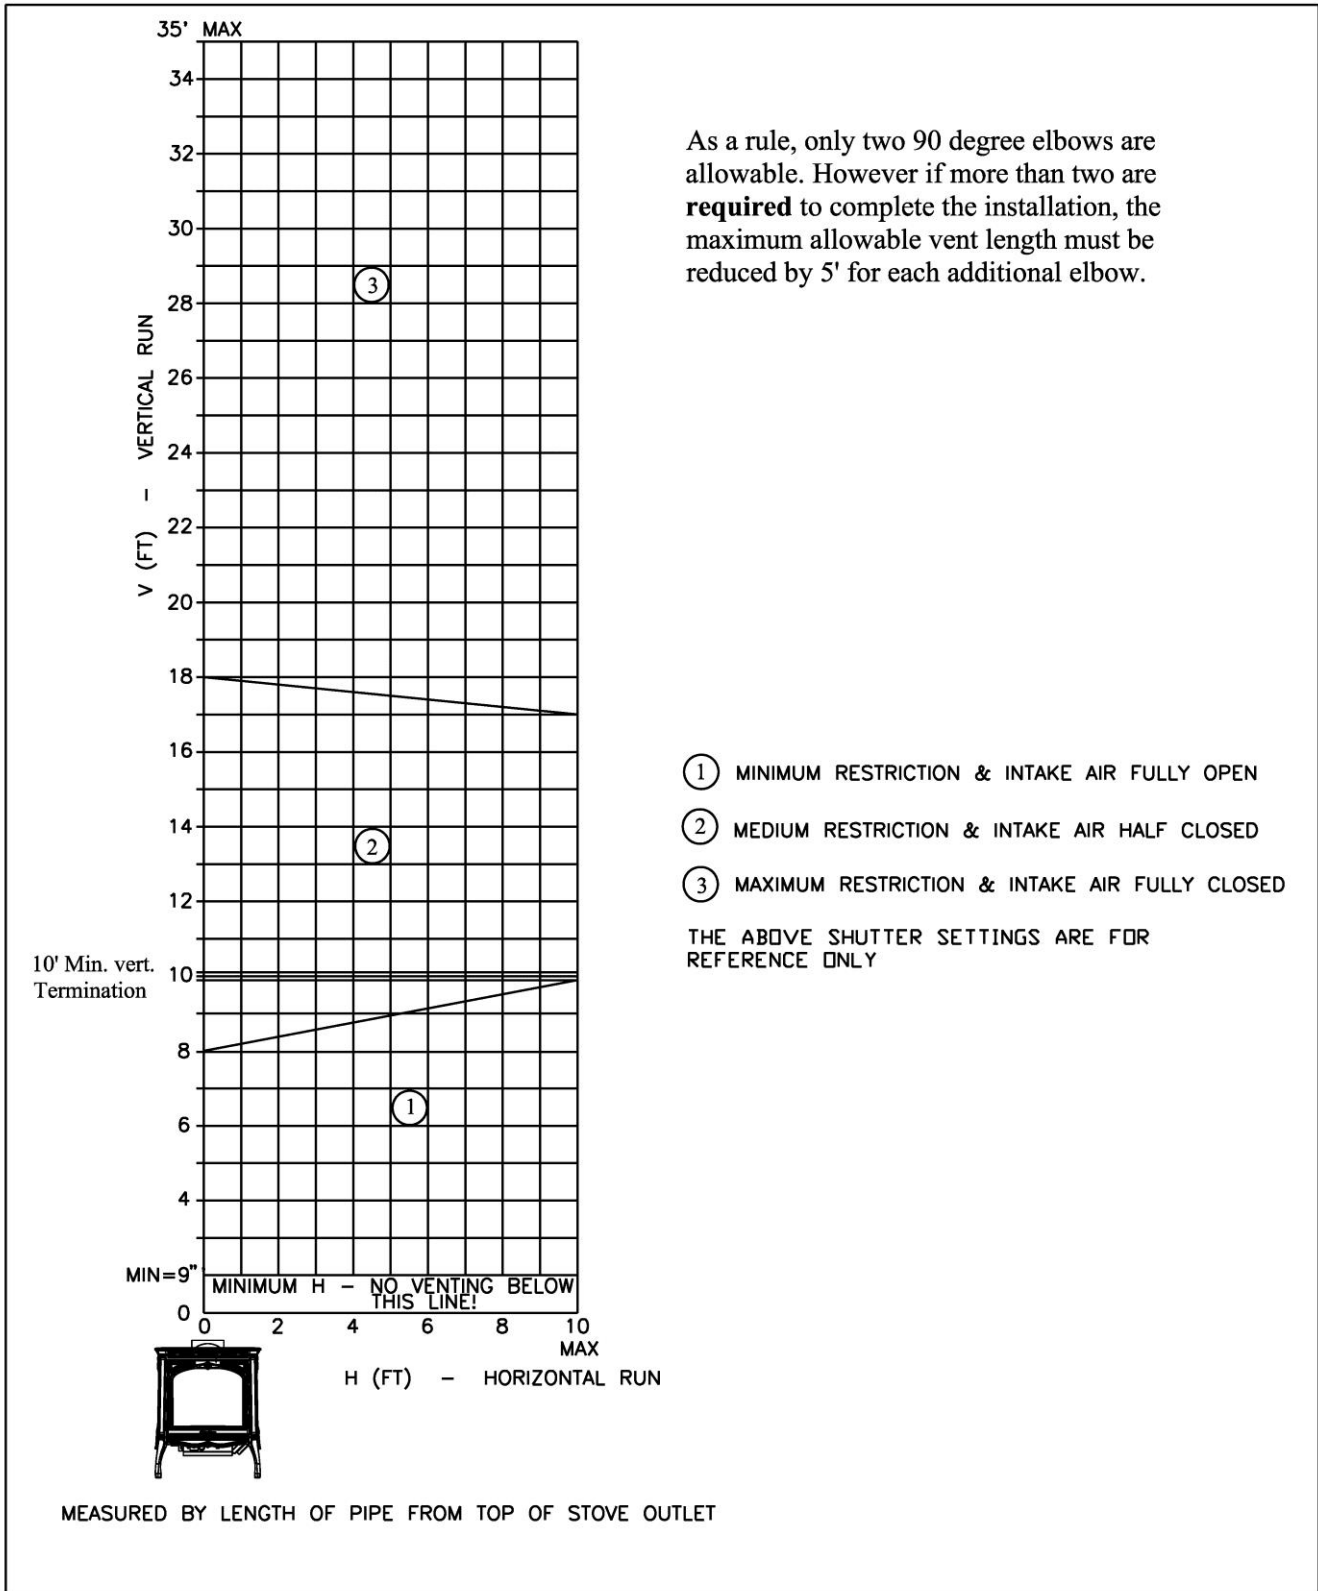

Figure 21 - Venting Termination Diagram
- 🔥 The termination must fall within the chart in Figure 21.
- 🔥 The termination must fall within the chart shown in Figure 21.